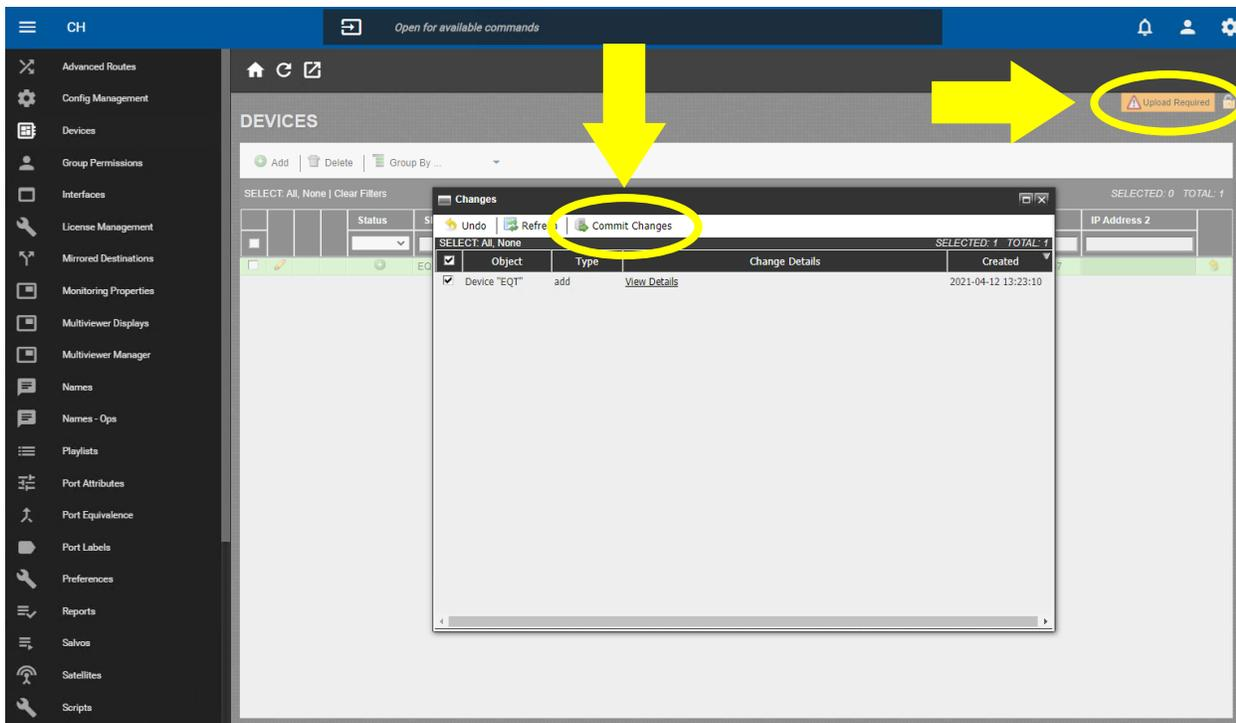
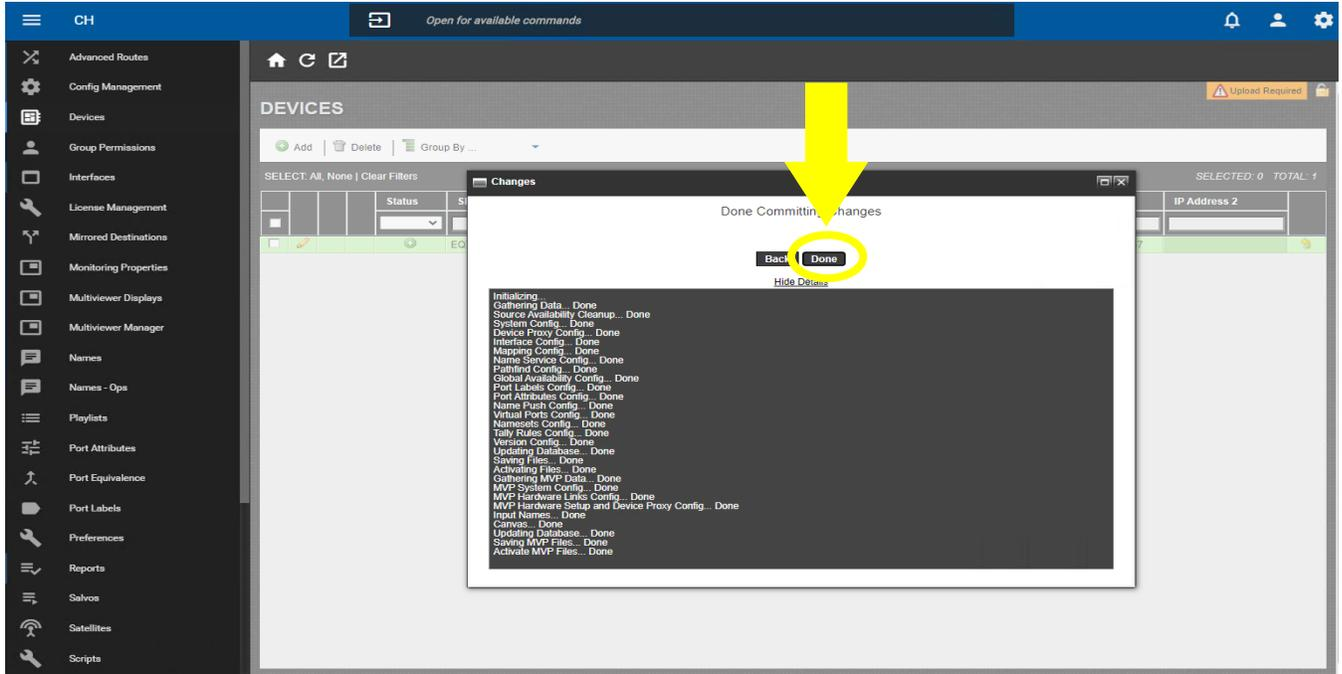

Figure 9-8 : MAGNUM – Verification
Figure 9-9 : MAGNUM - Complete Configuration
12. Click Commit Changes (as highlighted in Figure 9-8).
13. Once the server update is complete, click “Done” (see Figure 9-9).
NOTE: Since changes were done, an upload is required. Follow the steps described in Figure 9-8 and Figure 9-9.